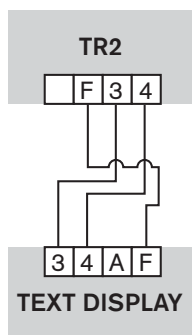

Fig. 29
Connect the TR2 to terminals 3, 4 and F beneath the Text display (page 8, fig. 4, item 422) using a minimum 1mm cable to avoid increasing resistance between the terminals, see Fig. 29